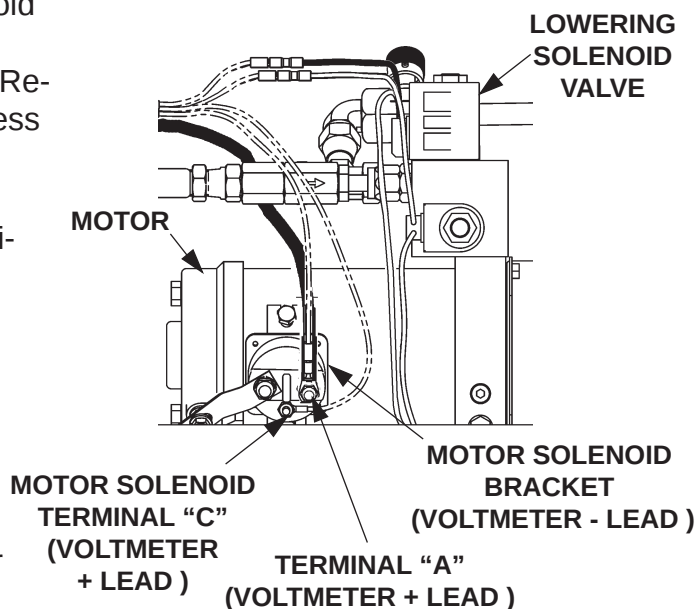

FIG. 54-1
1. Connect voltmeter between Motor Solenoid Terminal "A" and Bracket (**FIG. 54-1**) to verify that battery power is getting to "A". Re-charge the battery if voltmeter indicates less than 12.6 Volts DC.
3. Check if Lowering Solenoid Valve is getting power. Connect voltmeter between Motor Solenoid Bracket and Motor Solenoid terminal "C" (**FIG. 54-1**). Push Control Switch to "**LOWER**" position to energize Lowering Solenoid. If voltmeter reads battery voltage (+12.6 Volts DC minimum), control circuit is operating correctly (replace Lowering Solenoid). If voltmeter reads 0 Volts, check if toggle switch and wiring are faulty.